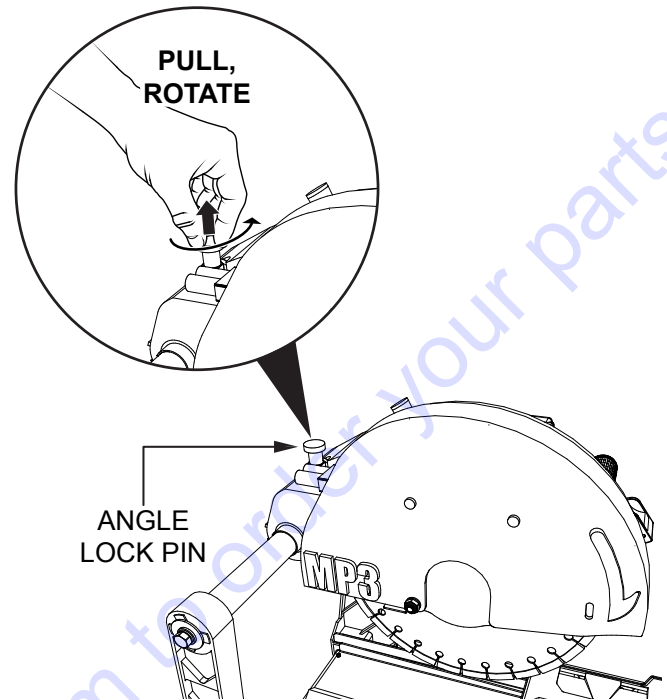

Figure 18. Angle Lock Pin
2. Pull the angle lock pin (Figure 18), rotate it 90 degrees, and release it. The cutting head can now be rotated freely up and down by the cutting head handle.